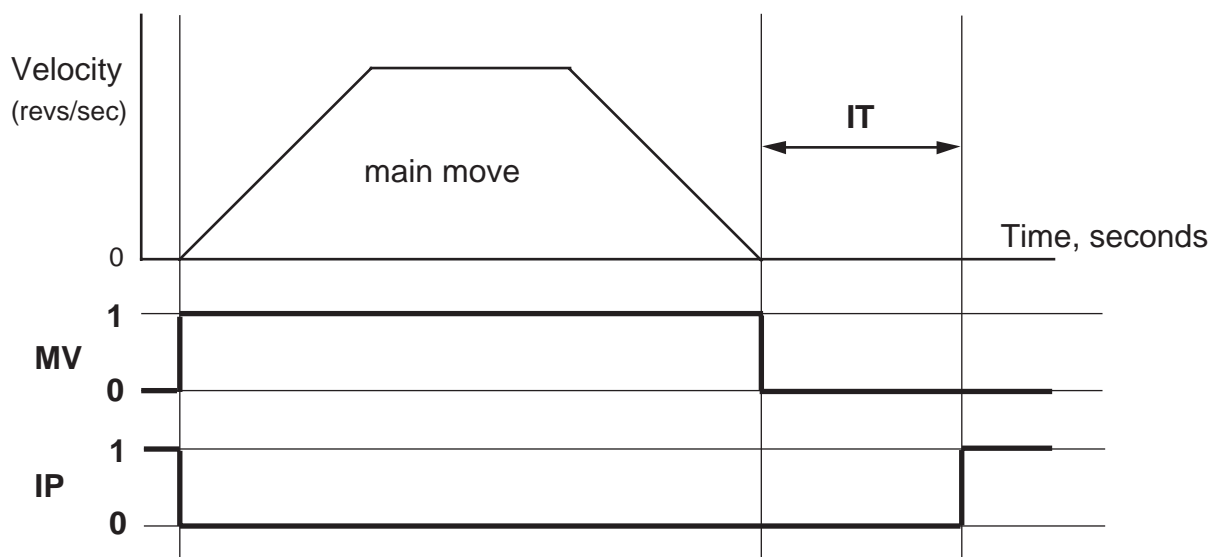

Figure 4-2. Interaction of MV, IP and IT
System flag variables IP (In Position) and MV (Moving) together with variable IT (In position Time) interact with one another as shown in Figure 4-2. The MV flag is only high whilst motion is taking place. The IP flag can only go high once movement has stopped and the IT timer value has timed-out. In Position Time (IT) allows time for mechanical oscillations to settle before indicating that the motor is in position.